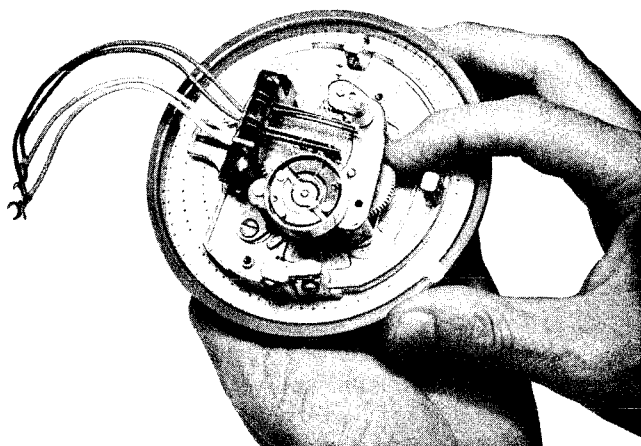

Fig. 27—Holding Intermediate Gear Immobile
(4) Grasp rim of fingerwheel with thumb and fingers. Rotate fingerwheel about 1 inch and hold in this position.
(5) Hold intermediate gear immobile with index finger of other hand (Fig. 27).
(6) Very gently rotate fingerwheel back and forth just enough to feel any backlash.
(7) Rotate fingerwheel to about 3/4 distance of its travel. Repeat steps (4), (5), and (6).